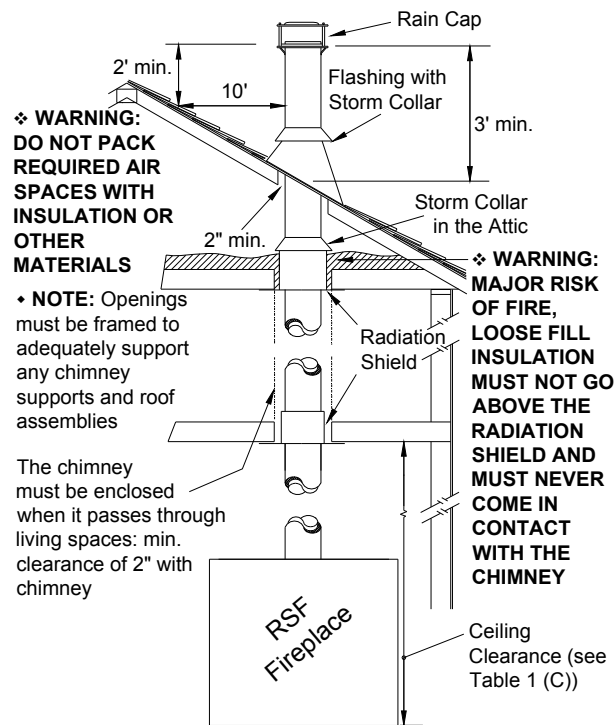

Figure 10 General Chimney Installation
2. From below, install a radiation shield in each floor through which the chimney passes. At the attic level, install a radiation shield and a storm collar as shown in Figure 10.